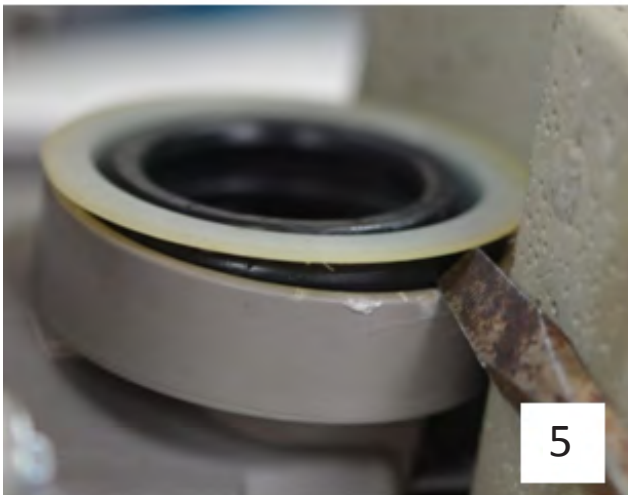

Figure 5
4. Pry up on old seal, see figure 5.